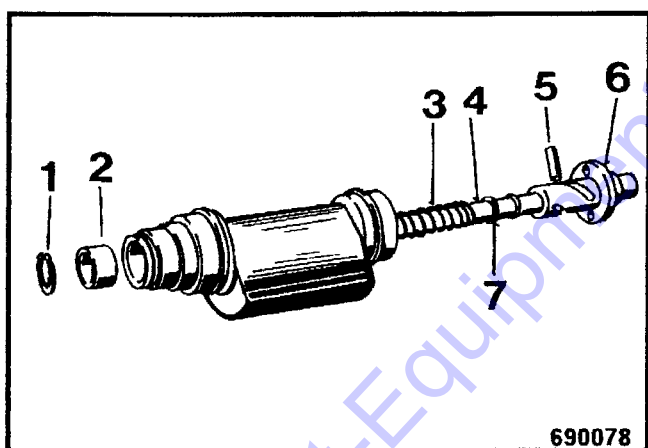

Fig. 20
- Take the circlip 1 (Fig. 20) off and remove the guide sleeve (2).
- Drive the dowel pin (5) out. Take the pressure spring (3), the stop washer (7) and the control sleeve (6) off the control shaft (4).